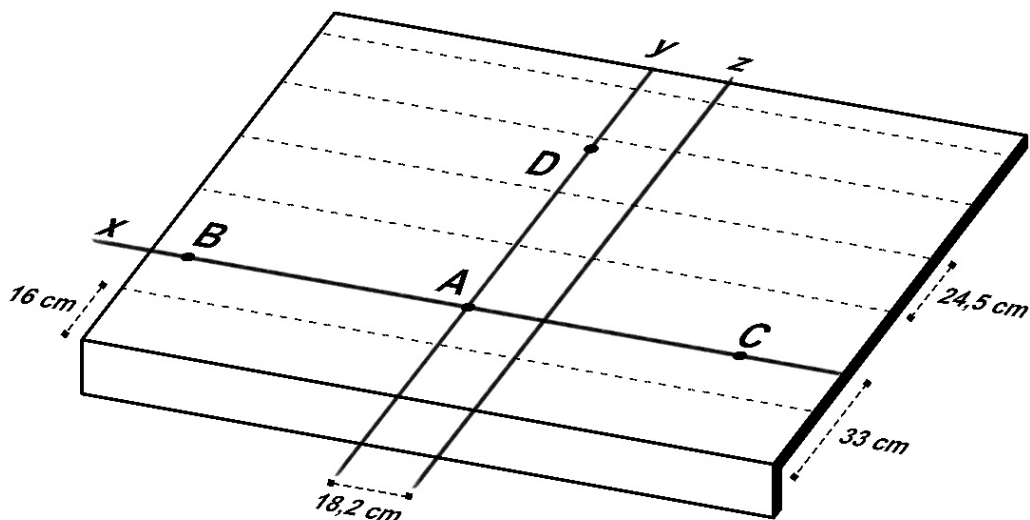

Fig. 3 - Tracing of the pitch [cm]
- Draw horizontal lines parallel to **x**, each one distant 24.5 cm from the previous, until you reach the ridge - see Fig. 3.